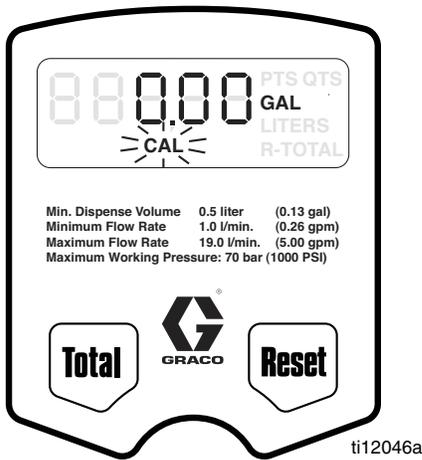

FIG. 12
- c. Press and hold Reset button again to display Calibration Menu. When this menu is displayed CAL blinks on the screen (FIG. 12).
## Calibration (FIG. 12)